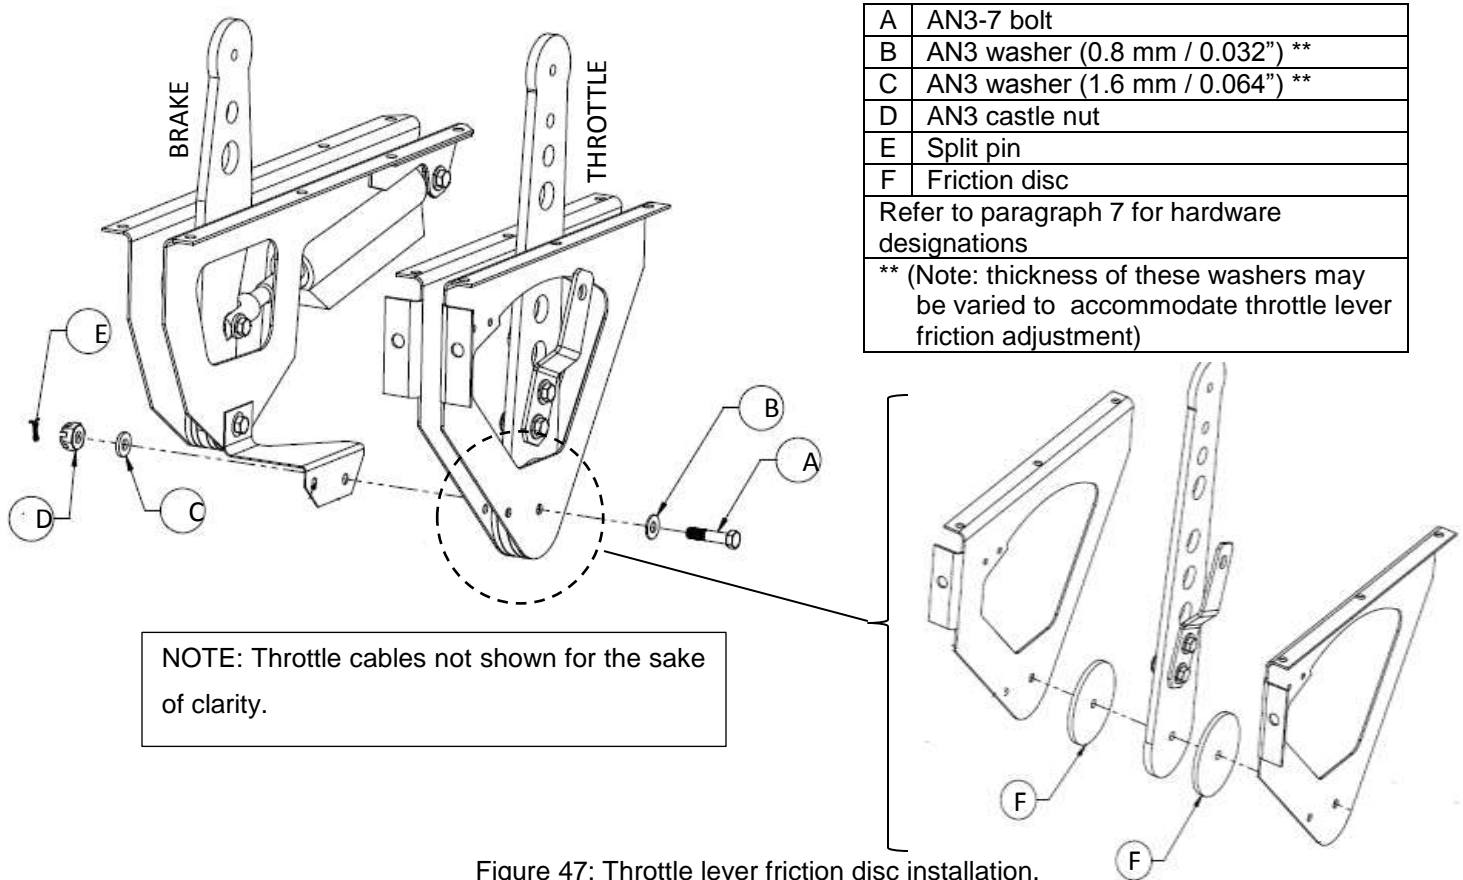

Figure 47: Throttle lever friction disc installation.
Each carburettor throttle control lever is attached to the throttle lever (in cabin) by a separate Bowden cable. Friction on the throttle lever (in cabin) is effected by two friction discs (refer to Figure 47 )
The butterfly / throttle valve control lever is attached to the throttle lever (in cabin) by a Bowden cable. Friction on the throttle lever (in cabin) is effected by two friction discs (refer to Figure 47 ).
4. Adjust castle nut and thickness of washers to attain required friction (refer to Figure 47).